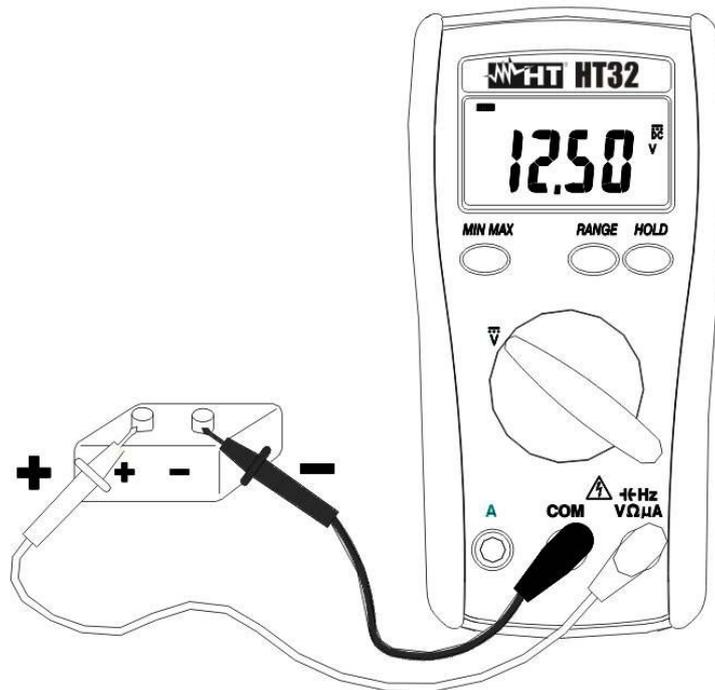

Fig. 2: DC Voltage measurement
2. Insert the test leads into the jacks, the red plug into $\text{HzV}\Omega\mu\text{A}$ jack and the black plug into **COM** jack (Fig. 2).
6. The symbol "-" on the display means that voltage has opposite direction than shown in Fig. 2.